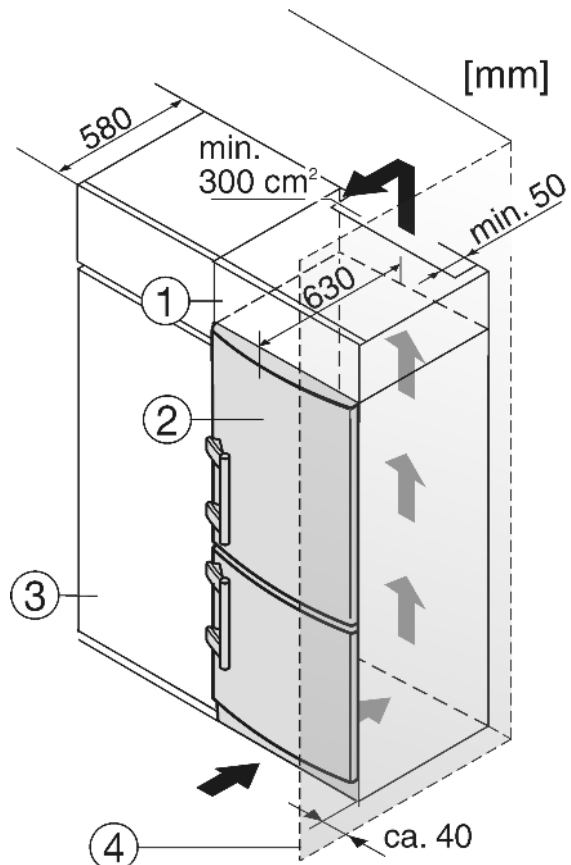

Fig. 9
- (1) Stack cabinet
- (2) Appliance
- (3) Kitchen cabinet
- (4) Wall
The appliance can be inserted into a row of kitchen units. To match the appliance *Fig. 9 (2)* to the height of the row of units, a suitable stack cabinet *Fig. 9 (1)* can be fitted above the appliance.
When inserting the appliance into a row of kitchen units (max. depth 580 mm), the appliance can be installed directly next to the kitchen unit *Fig. 9 (3)*. The appliance door projects relative to the front of the kitchen unit by 34 mm at the side and by 50 mm in the middle of the appliance. It can be opened and closed perfectly as a result.
If the appliance is installed with the hinges next to a wall *Fig. 9 (4)*, the distance between appliance and wall has to be at least 40 mm. This corresponds to the projection of the handle when the door is open.